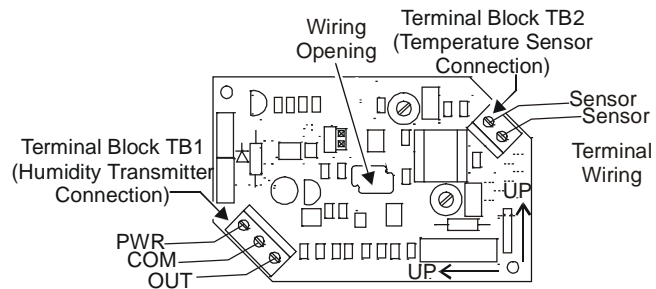

Figure 6: Wiring the Wall Mount Humidity Element
1. Connect the wires to the appropriate positions on the terminal block. (See Figure 6.)